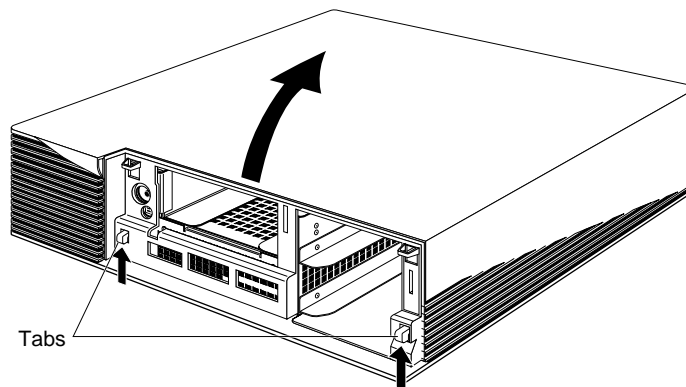

Figure 3-2 Removing the Top Cover From the Indigo² Chassis
- Remove the top cover, as shown in Figure 3-2.